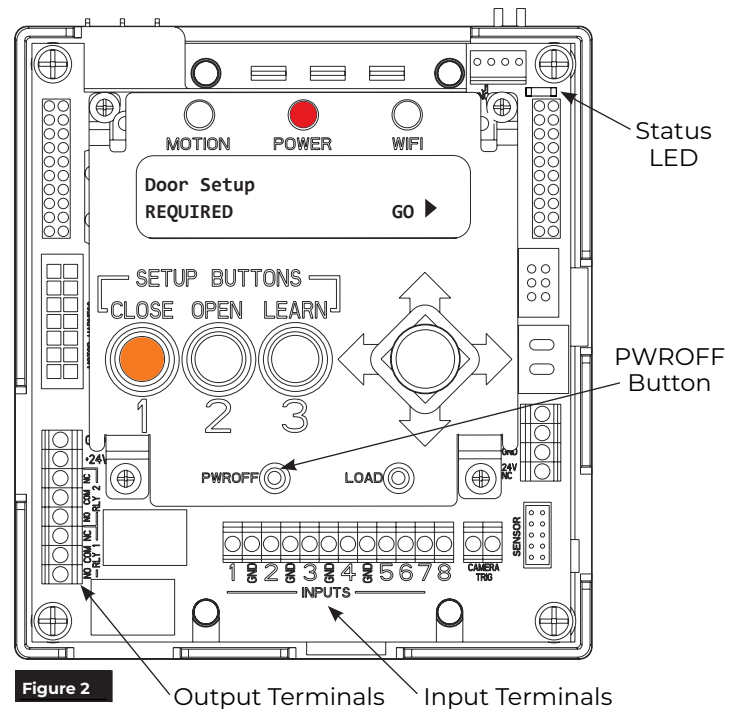
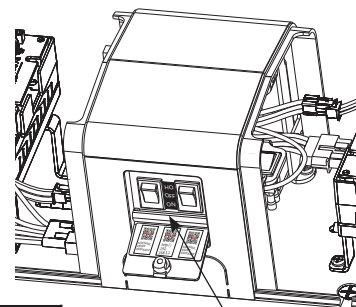

Figure 2
Figure 3
3. Wire any additional output devices, such as electric strikes, mag locks, exit devices, door open position output, etc., to the green terminals on top of control board. (Figure 2)
4. If applicable, reinstall the Union Assembly using the (4) 8-32x5/16" screws previously removed.
6. Confirm the ON/OFF/HO switch, located in the end cap, is in the ON position before proceeding to Setup (Figure 3).